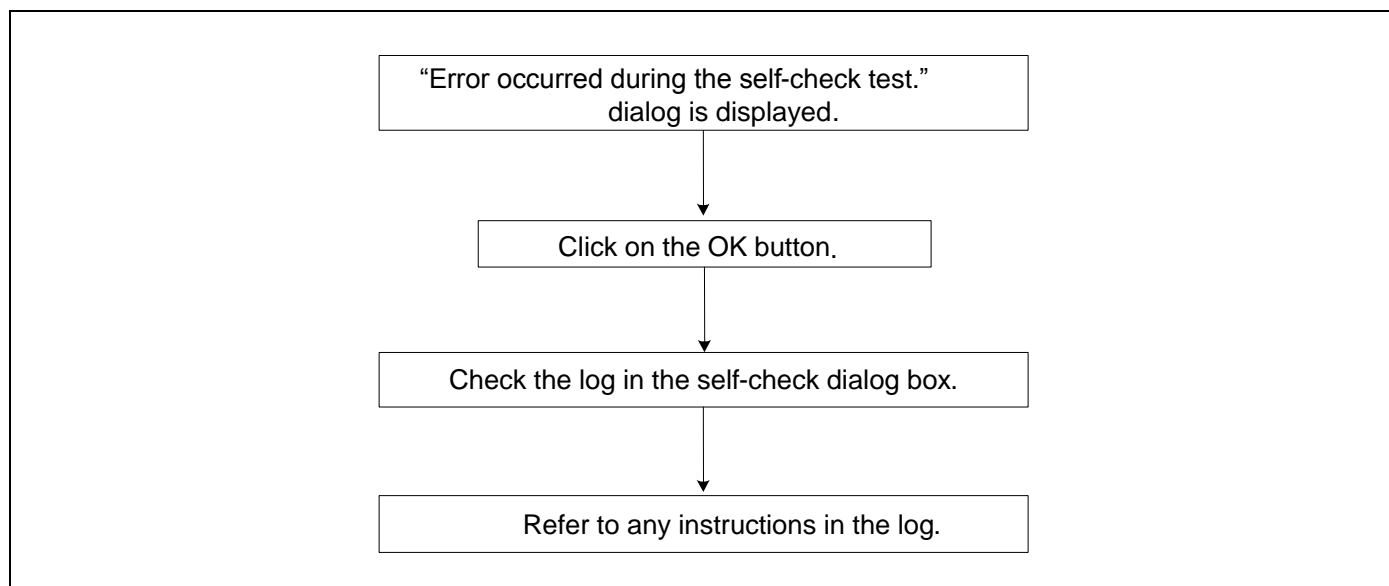

Figure 6.2 Flowchart for checking of an error in self-checking
- (1) Re-check the connection between the E100 emulator main unit and the MCU unit.
- (2) Download the proper firmware again.
- (3) Check the error log from self-checking by the debugger software, and refer to the instructions given therein (see Figure 6.2).